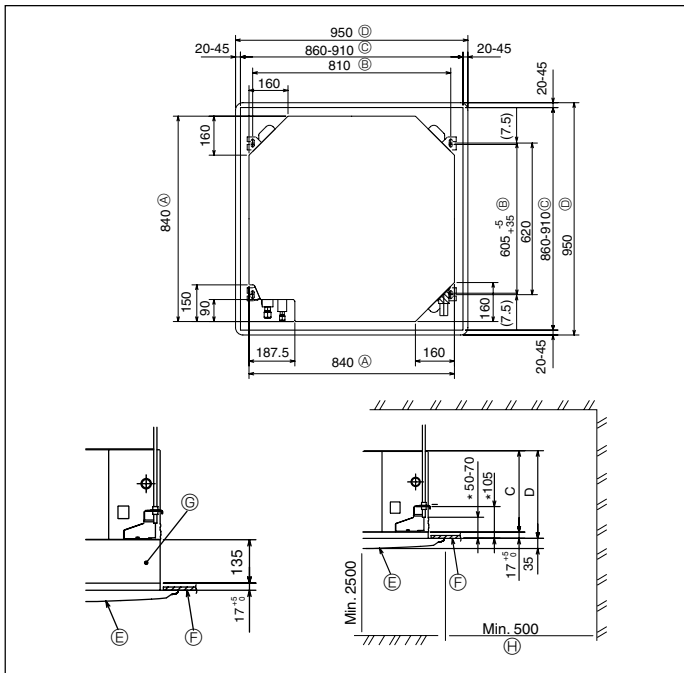

Fig. 3-2
### 3.2. Ceiling openings and suspension bolt installation locations (Fig. 3-2)
- \* The dimensions of ceiling opening can be regulated within the range shown in Fig.3-2; so center the main unit against the opening of ceiling, ensuring that the respective opposite sides on all sides of the clearance between them becomes identical.